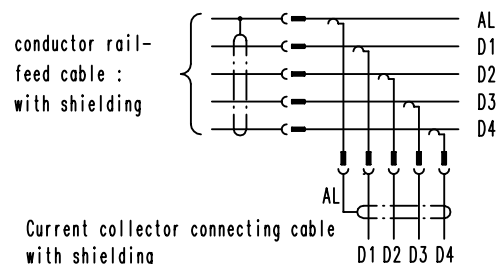

**Fig.2** Example 9 poles:
- C Fig. 2 Conductor rail feed cable :
- F Fig. 2 Current collector connecting cable :